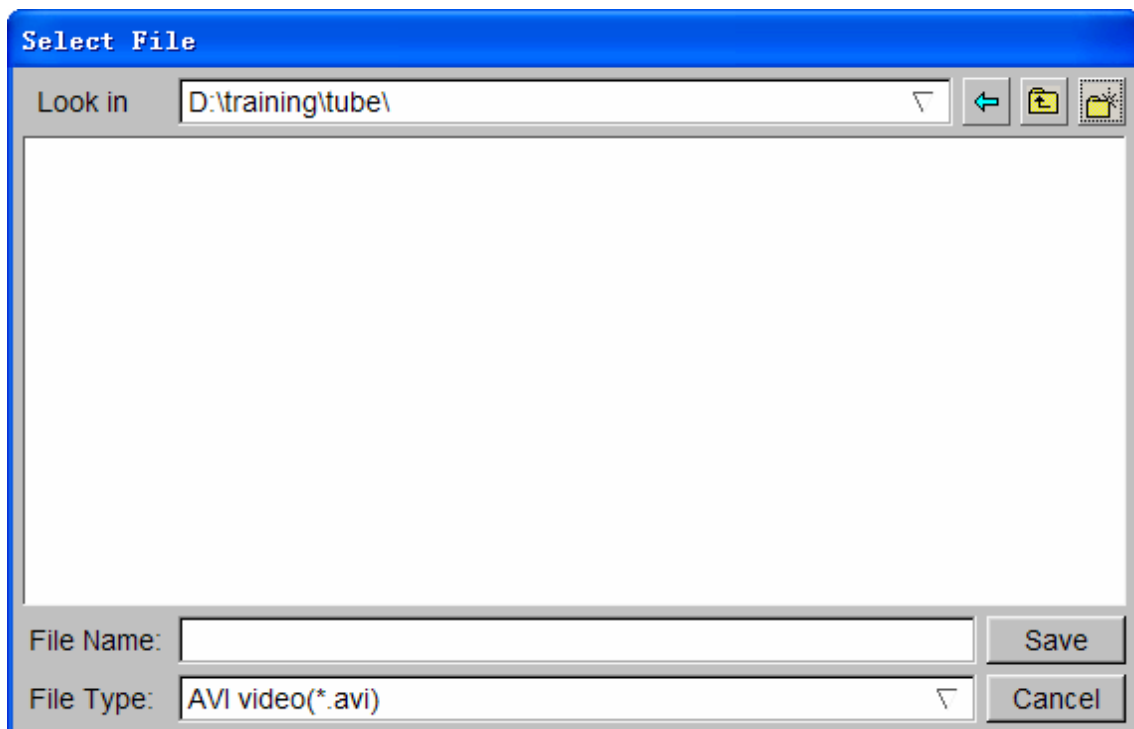

Figure 3.56 Save AVI file
5. Enter a name of the **AVI** movie file (e.g. traincase.avi) at the input data field of File Name illustrated in Figure 3.56.